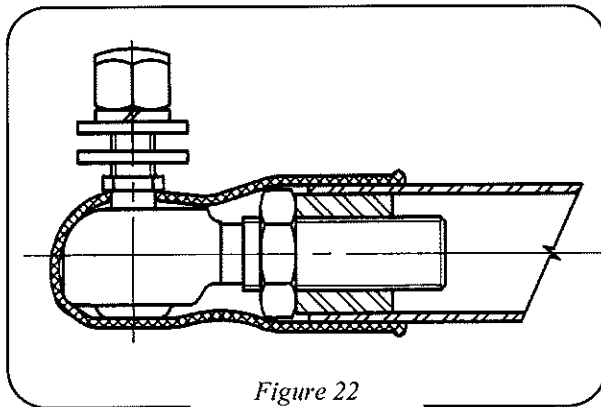

Figure 22
1. Position support arm brackets onto support arm rod end studs with a flat washer on each side of support arm bracket (*Figure 22*) and secure with cap nut and lock washer provided.